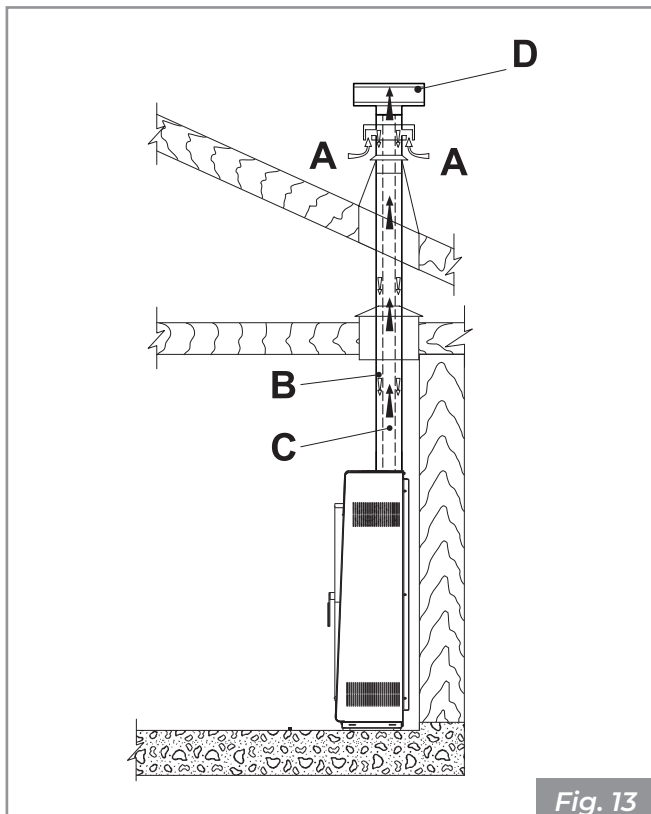
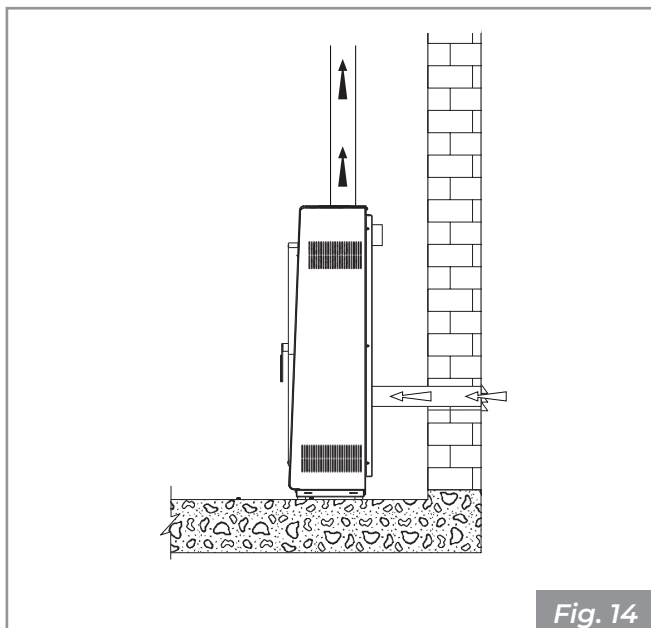

Fig. 13
Fig. 14
- coming directly from the outside with direct connection to the combustion chamber (Fig. 13 - Fig. 14).
- to channel the combustion air using a coaxial exhaust pipe to expel the fumes and to extract the air (**Fig. 13 - A, B = Air inlet, C, D = Smoke outlet**); it is therefore not necessary to create a tradition air intake in the room;
- connect the combustion air inlet of the appliance to the air intake with a suitable duct (**Fig. 14**).